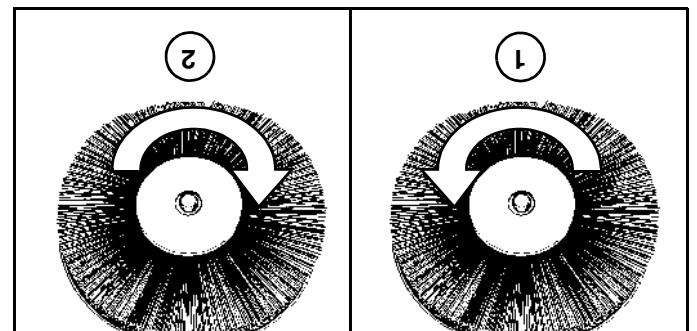
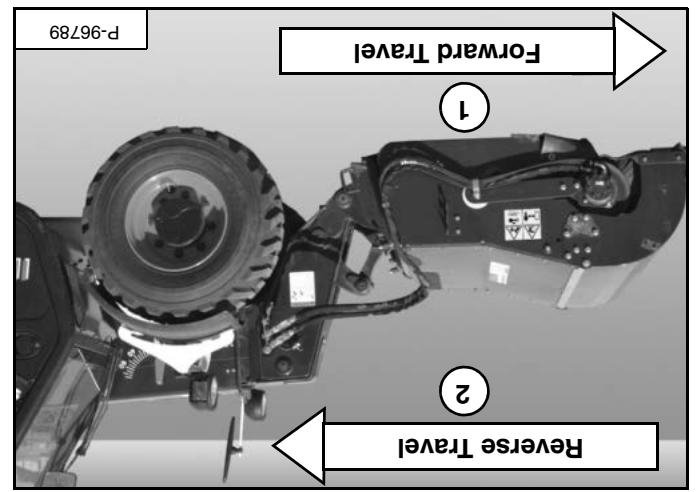

Figure 90
Figure 89
When travelling in the reverse direction (item 2) [Figure 89] operate the sweeper in the clockwise direction (item 2) [Figure 90] with the cutting edge set on the surface to be swept.
[Figure 89] reduces wear on cutting edge and item 1) [Figure 90] with the anticlockwise direction (item 1) [Figure 90] with the cutting edge slightly above the surface to be swept.
When travelling in the forward direction (item 1) [Figure 89] operate the sweeper in the anticlockwise direction (item 1) [Figure 90] with the cutting edge slightly above the surface to be swept.